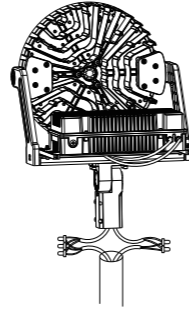

Figure 14
- 1: Loosen the four bolts on the slipfitter mount, connect the wires correctly, and pull the wires into the poles. (Figure 14)